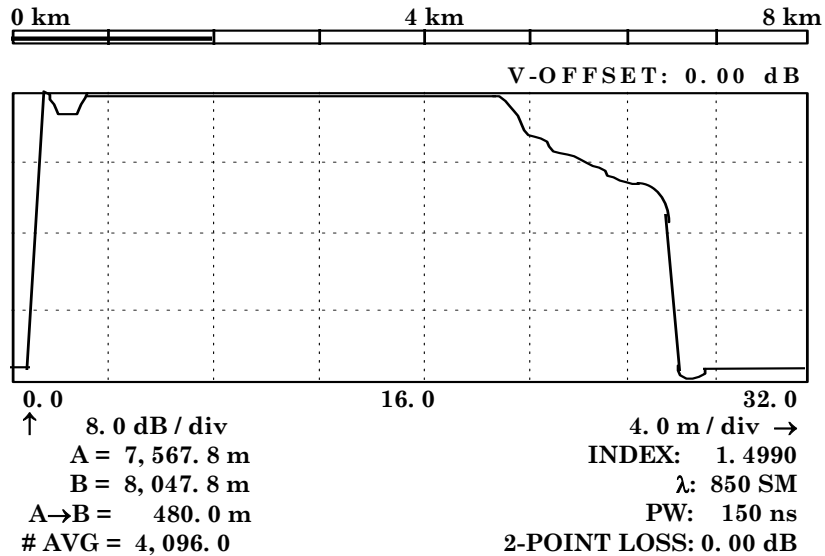

Figure 9. Example of expanded *dead zone pulse* - (TD-260C).
(17) Press **HOR EXP** pushbutton to expand display to view *dead zone pulse* (fig. 9).